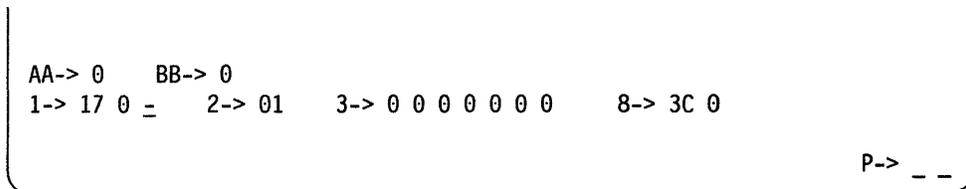

Figure 3-15. Cursor Under Second Dash
- g. Press the Cursor Right key to move the cursor under the second dash (see Figure 3-15 on page 3-14).